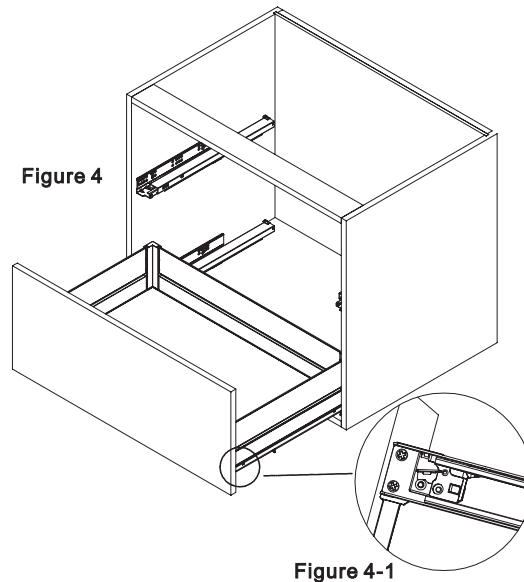

Figure 4-1
1. Put the basket on the slide and push it into the cabinet, after hearing the sound of "click", complete the basket installation. (Note: the hook under the basket must be hooked to the slide, as shown in Figure 4-1.)